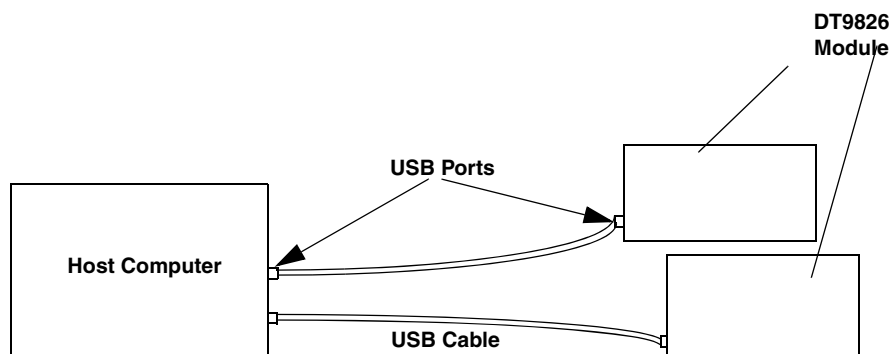

Figure 3: Attaching the Module to the Host Computer
2. Attach the other end of the USB cable to one of the USB ports on the host computer, as shown in Figure 3.